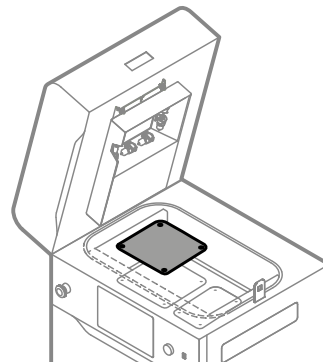

Fig. 13.43 Remove the Feed Bed cover.
16. Remove the Feed Bed cover. You can use the metal spatula (from Dedicated Powder Tools) to pry up and remove the cover (fig. 13.43).